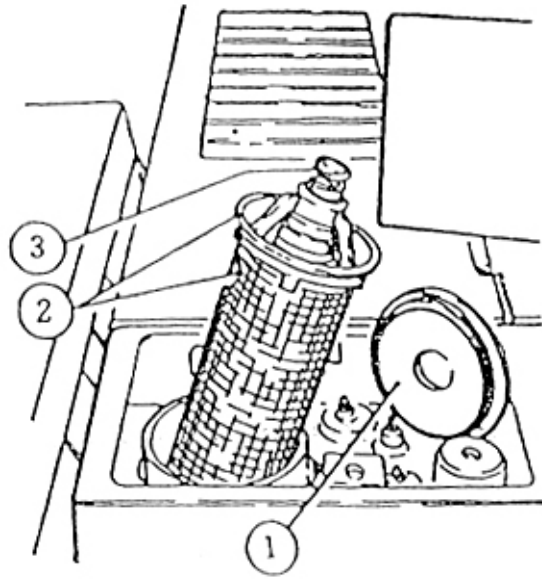
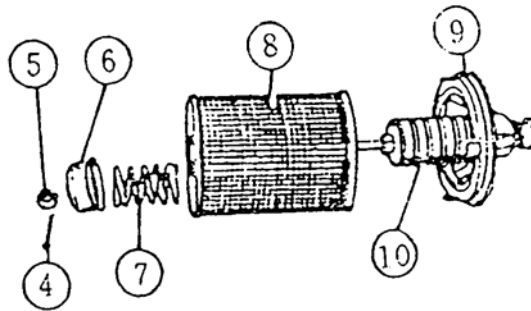

Fig.39
Fig. 40
4. Remove complete filter cartridge (Fig 39/2) and pressure cap (Fig 39/3)
5. Pull out the split pin (Fig 40/4) and unscrew the castl nut (Fig. 40/5)
Remove spring support (Fig 40/6) pressure spring (Fig 40/7) and filter cartridge (Fig 40/8) from the filter holder (Fig 40/9)
6. Clean magnet (Fig 40/10) and cartridge holder (Fig 40/9)
Note: When reassembling use a new split pin (Fig 40/4) Renew seal ring of filter holder. If necessary. When securing the new filter cariridge. Make sure that it sits flat against the filter holder .When replacing the complete filter into the tank. Care must be taken that the seat Screw in filter cover (Fig 39/1) carefully.